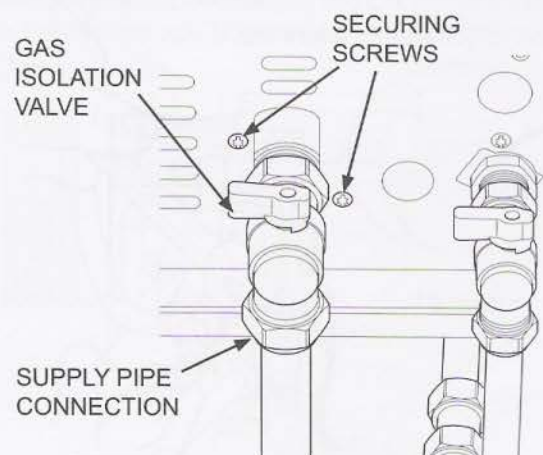

Figure 48
- Remove the gas valve's two securing screws and washers from the underside of the boiler. (Figure 48)